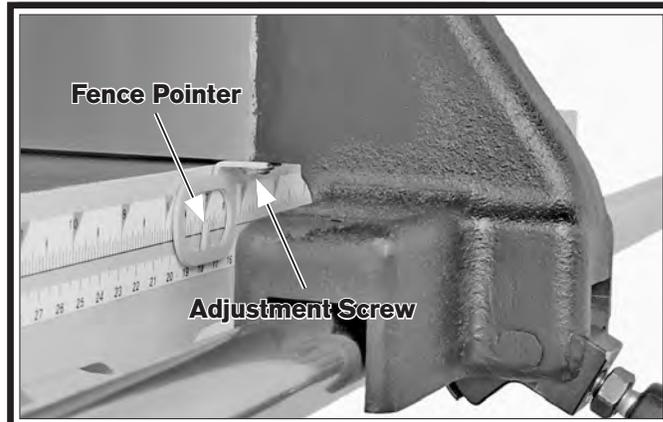

Figure 50. Fence pointer components.
4. Loosen pointer adjustment screw shown in Figure 50, set pointer in line with "0" mark on scale, then re-tighten screw.